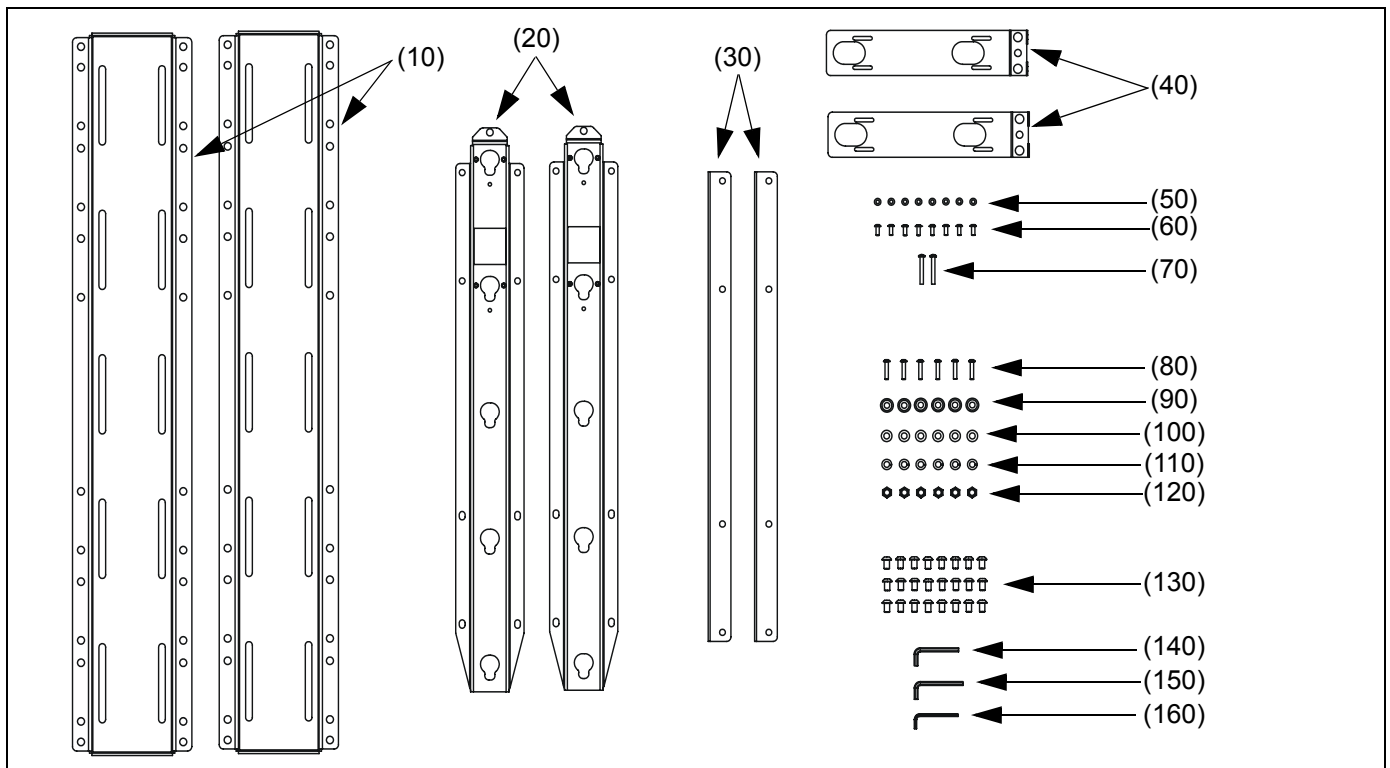

Figure 1: Parts
Unpack carton, inspect and verify contents (See Figure 1). Read installation instructions completely. If any listed parts are missing or damaged, contact Chief Customer Service at 1-800-582-6480.
NOTE: Mounting buttons are pre-installed on optional interface bracket. PSH-2000 items (80) through (120), and key (140)(See Figure 1), will not be used with optional interface bracket.